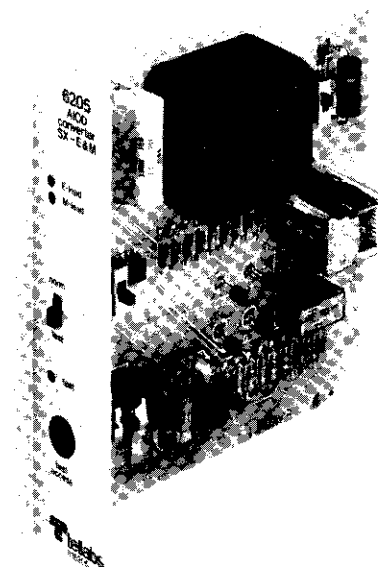

figure 1. 6205 AIOD Converter (SX-E&M) module
1.01 The 6205 AIOD Converter (SX-E&M) module (figure 1) is a simplex-to-E&M signaling converter used in Automatically Identified Outward Dialing (AIOD) PBX applications. Specifically, the 6205 converts simplex supervision at a common-control PBX to 4wire E&M signaling for transmission of station-identification information to Automatic Message Accounting (AMA) equipment at a distant central office. The 6205, usually located at the PBX's serving CO, serves one circuit. The 6205 is functionally equivalent to a Western Electric Co. SD-99446-01 Signaling Converter Circuit.